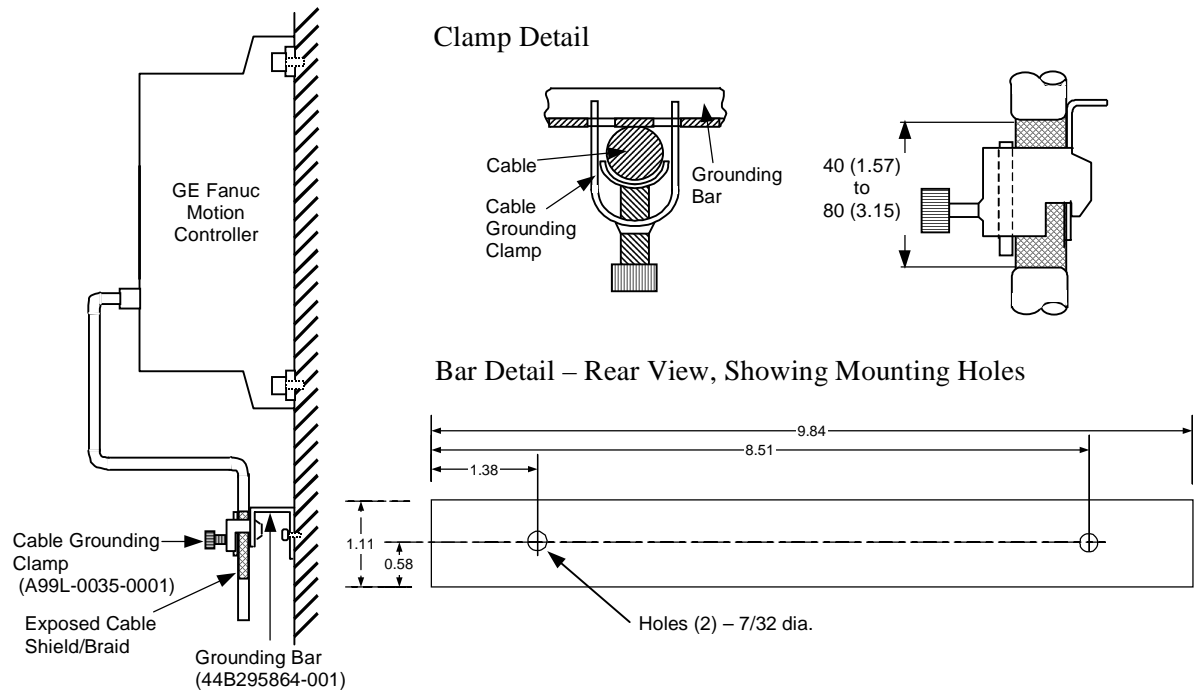

Figure A-12. Detail of Cable Grounding Clamp (A99L-0035-0001) and Bar (44B295864-001)
3. For installations which must meet IEC electrical noise immunity standards (CE Mark), cable shield grounding clamps (A99L-0035-0001) and a grounding bar (44B295864-001) must be used at the SL-Series amplifier end of the servo amplifier interface cable (IC800SLCIZ0xx or IC800SLCIV0xx) and the DSM end of the DSM control cable (IC693CBL324/325). See Figure A-12 for details on grounding bar and clamp.